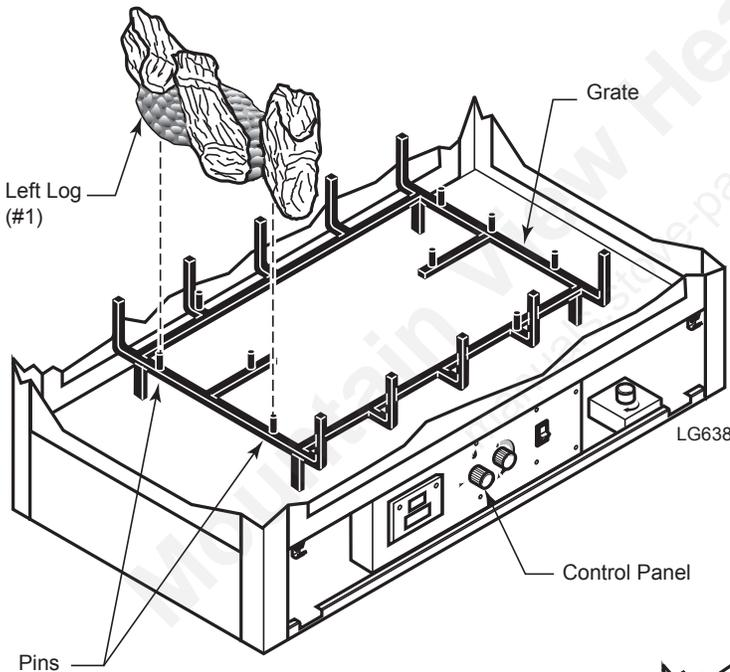

Figure 42 - Install Left Log (#1)
3. Place left log (#1) on left end of grate. Line up two (2) pin holes in bottom of log with two (2) pins on grate. Log #1 will always be to the left of the control panel. *Figure 42*